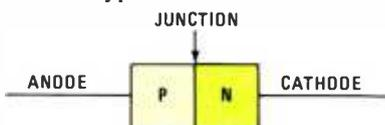

Fig. 1—A junction diode is formed by joining P- and N-type semiconductor materials.
possible damage during shipment, the G-POS mode was selected at assembly time. To activate the more desirable G-NEG mode, first remove the suspensor unit's (Fig. 1) elastometer limit stop (if present).
The friendly holding surface (surface "A") and the aggressor point are clearly shown on Fig. 1 and should be used as directed in the instructions.
**Fig. 1—A vertical projection plane view of the front side of the Magic Paperweight. The unit is illustrated in the G-NEG mode. Unless the reader is fully cognizant of the forces involved, he (or she) is strongly advised not to make unauthorized copies, and even then at his (or her) own risk.**
13. A diode is created by joining P-type and N-type semiconductors, as shown Fig. 1. The P-type element is called the *anode* while the N-type element is called the *cathode*. The